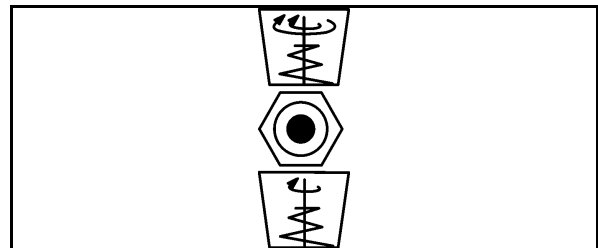

Fig. 20
- the key button (Fig. 20) in case of electrical remote control via the control unit.
For changing the gear level, swivel the key button (Fig. 20) into the required position and keep hold of it there for at least 10 seconds.